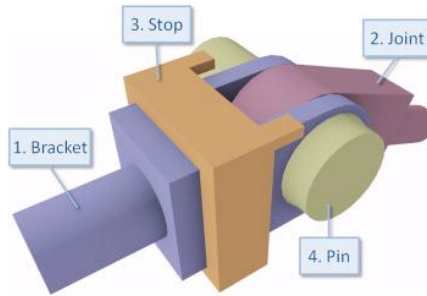

Figure 7
2. Determine the feasible sequence for the coupling assembly as shown in figure 7 using liaison diagram.